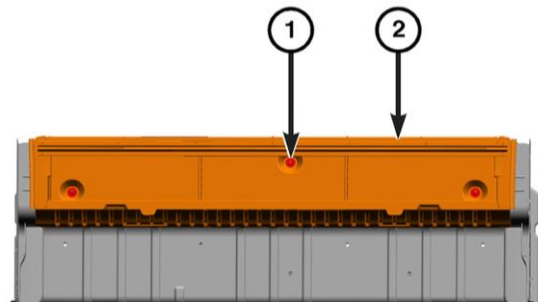

Figure 12 – Rear Storage Bin
4. Remove the four nuts that secure the two rear seat gap hider doors. Remove the two gap hider doors from vehicle (Figure 12).
5. Open the rear storage bin lid and remove the three fasteners that secure the storage bin (Figure 12).
6. Lift up on the rear storage bin enough to disconnect the wire harness connector for the subwoofer if equipped and remove the rear storage bin from vehicle (Figure 12).
19. Connect the wire harness connector to the rear storage bin subwoofer if equipped, then position the rear storage bin in the vehicle (Figure 12).
20. Open the rear storage bin lid and install the three fasteners that secure the storage bin, tighten securely (Figure 12).